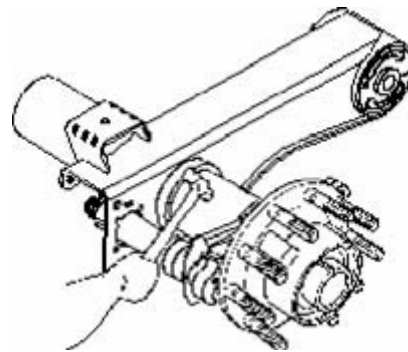

Figure 12: Tap lightly on the axle to loosen the Hub
1. Tap lightly on the unmachined part of the axle with a hammer. (Figure 12) Tapping may loosen the hub assembly for easier removal.